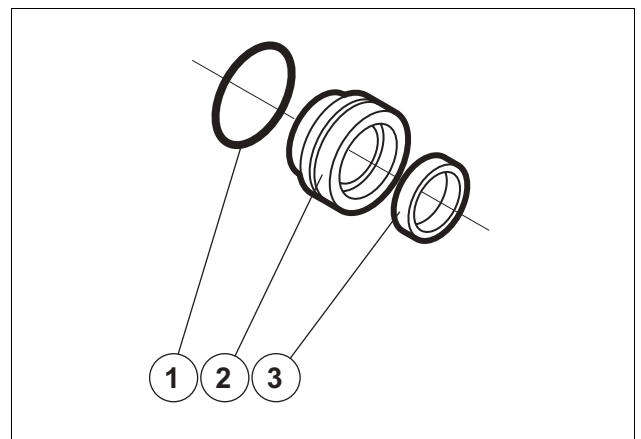

Fig. 40 Gland Seals
5. Remove damaged gland seal(3) and o-ring(1) from the gland(2). *See Fig. 40.*